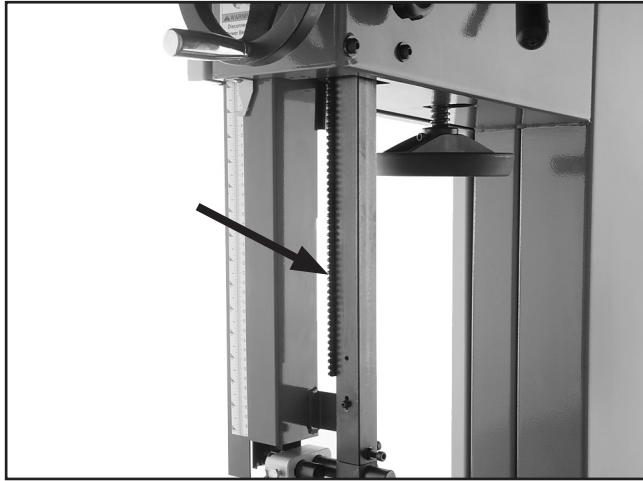

Figure 57. Rack lubrication location.
3. Wipe off any existing grease and sawdust buildup on the rack (**Figure 57**)